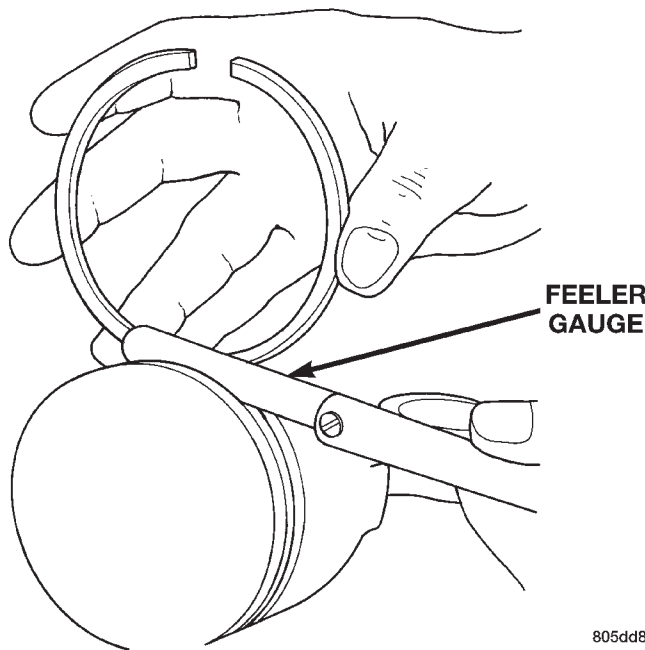

Fig. 13 Measuring Piston Ring Side Clearance
(1) Measure the ring side clearance as shown (Fig. 13) make sure the feeler gauge fits snugly between the ring land and the ring. Replace any ring not within specification.
(2) Rotate the ring around the piston, the ring must rotate in the groove with out binding.